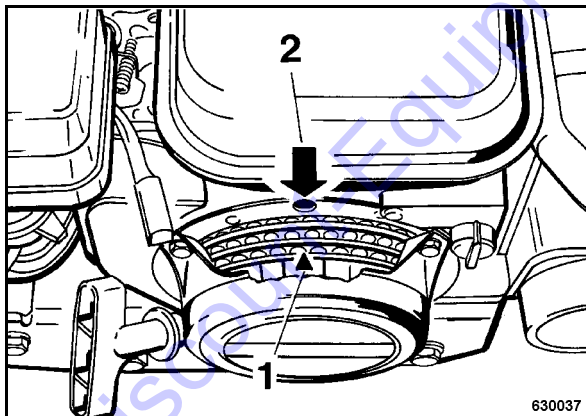

Fig. 61
- For this purpose align the alignment mark (1) (Fig. 61) on the starter disc to the top bore (2).